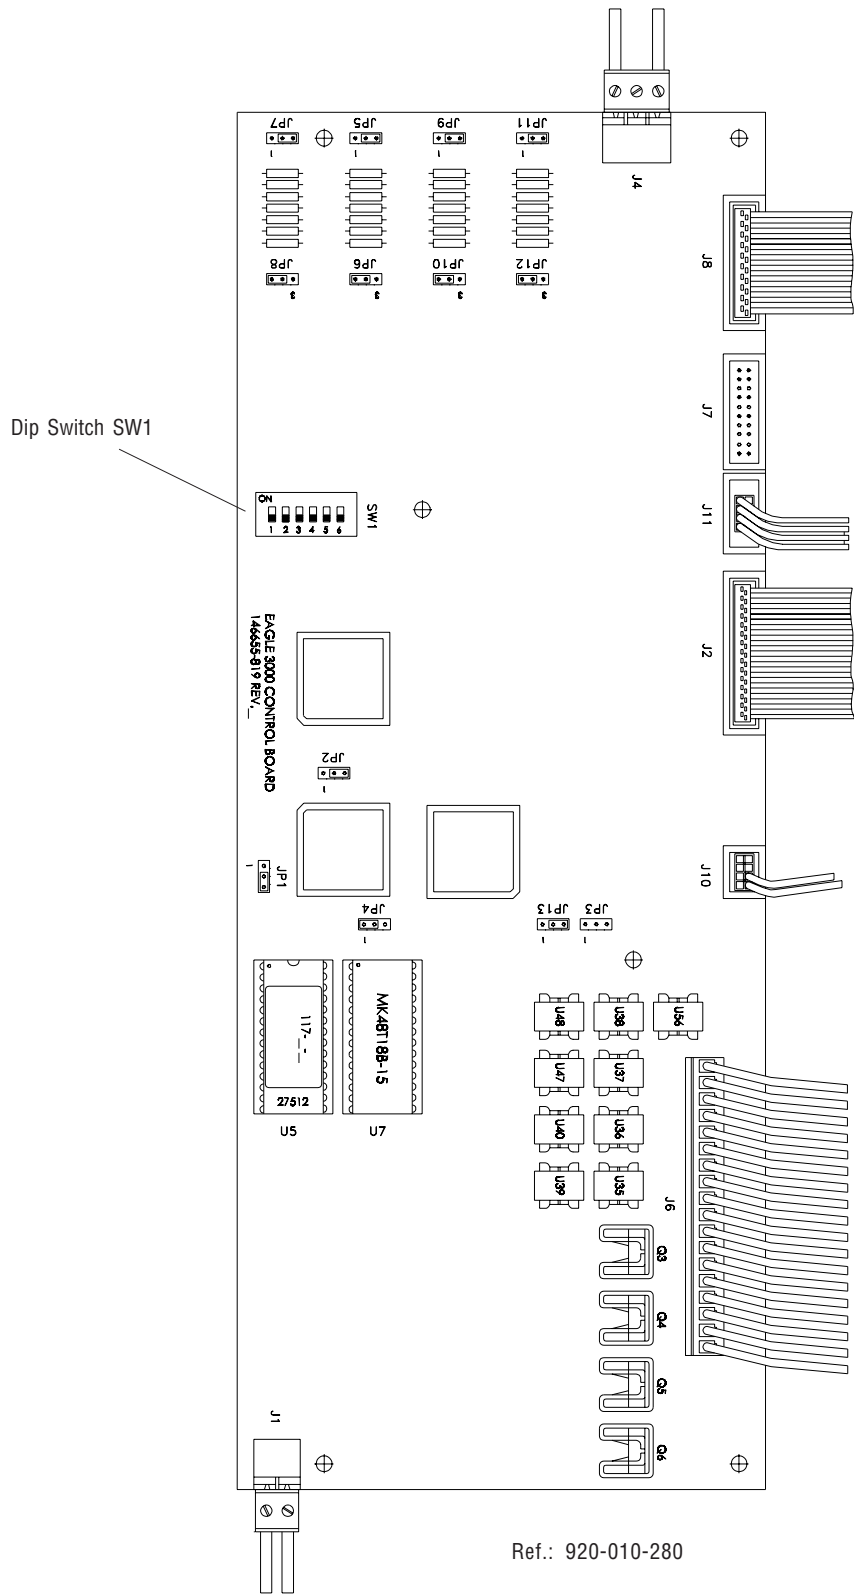

Figure 5-2. Control PC Board Jumper Setting
6. Locate dip switch SW1 on Control PC Board (see Figure 5-2).